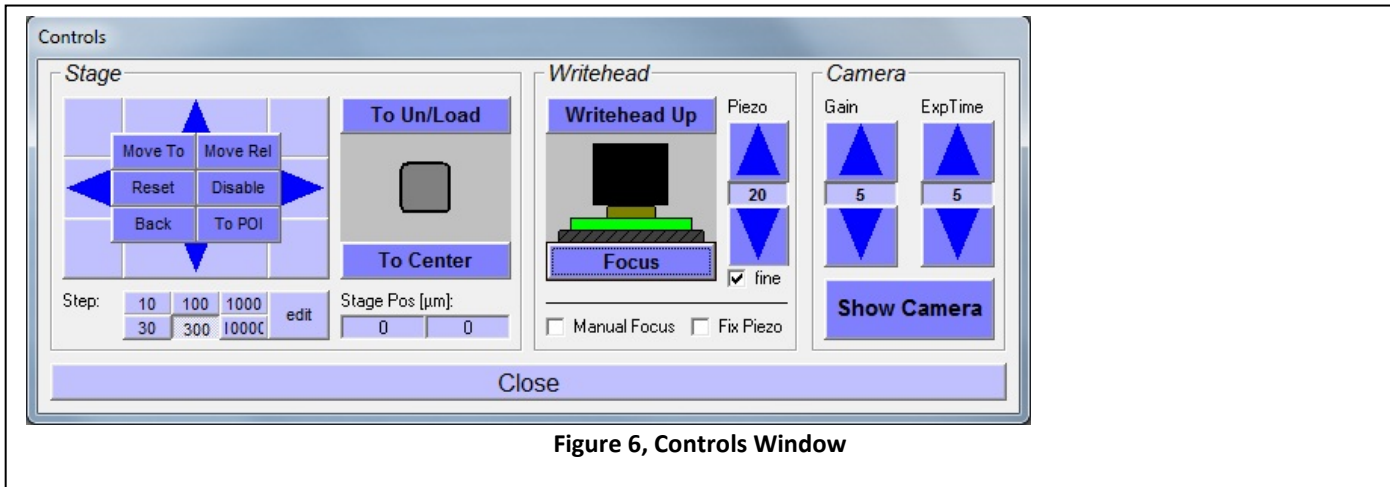

Figure 6, Controls Window
7.5.1 Click “To Un/Load” button in Stage Controls, see Figure 6, Controls Window
- NOTE: Focus is complete when a green rectangle is present above Focus button, do not proceed until green rectangle is present, see Figure 6, Controls Window